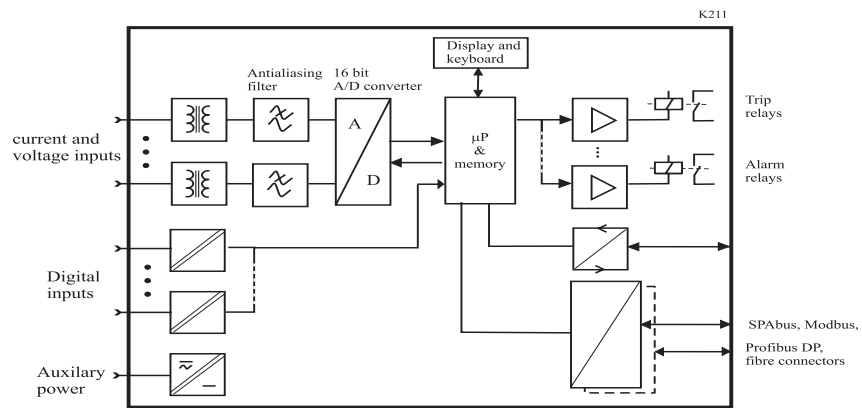

Figure 2.1-1. Principle block diagram of a numerical feeder manager
Figure 2.1-1 shows a principle block diagram of a numerical manager. The main components are the energizing inputs, digital input elements, output relays, A/D converters and the micro controller including memory circuits. Further, a manager contains a power supply unit and a human-machine interface (HMI).
1. The maximum measured current is $50 \times I_{mode}$. This limits the scope of inverse curves when the setting is more than $2.5 \times I_{mode}$ (see Figure 2.1-1). For example, at setting $4 \times I_{mode}$ the maximum setting relative current is $12.5 \times I_{set}/I_{mode}$ although the curves are defined up to $20 \times I_{set}/I_{mode}$.